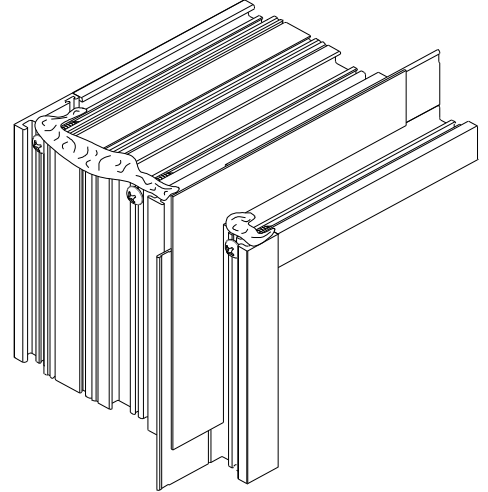

Figure 10:
3. Apply a heavy bead of sealant to the interior side of the mounting flange (nail-on) where the frame jamb and sill join. Sealant must cover the entire joint (from the flange to the inside leg) and extend 1 1/2" up the jamb and along the sill (Figure 10).